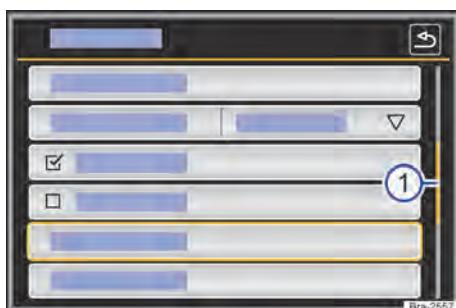

Fig. 111 Schematic representation: list entries in the settings menu.
List entries can be accessed by directly touching the screen or with the selector button → Fig. 111 ④.
If the available entries on a list do not fit the display, function buttons or a scrollbar are shown on the right-hand side to scroll through entries → Fig. 111 ①.